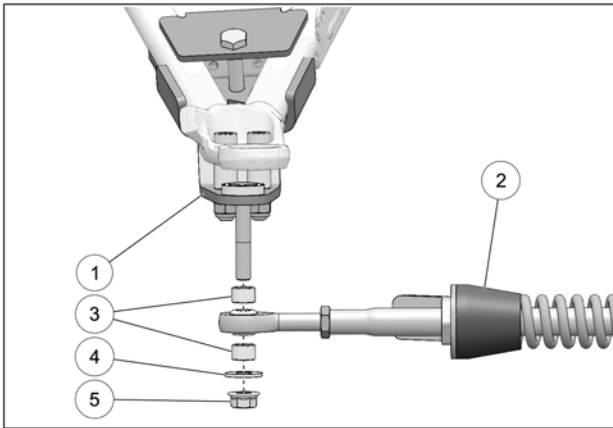

Fig. 22
12. Attach the stabilizing rod (2) to the anchor bracket (1), using the two spacers (3), washer (4), and nut (5). Torque to 70 N•m [52 lb•ft]. Refer to Fig. 22